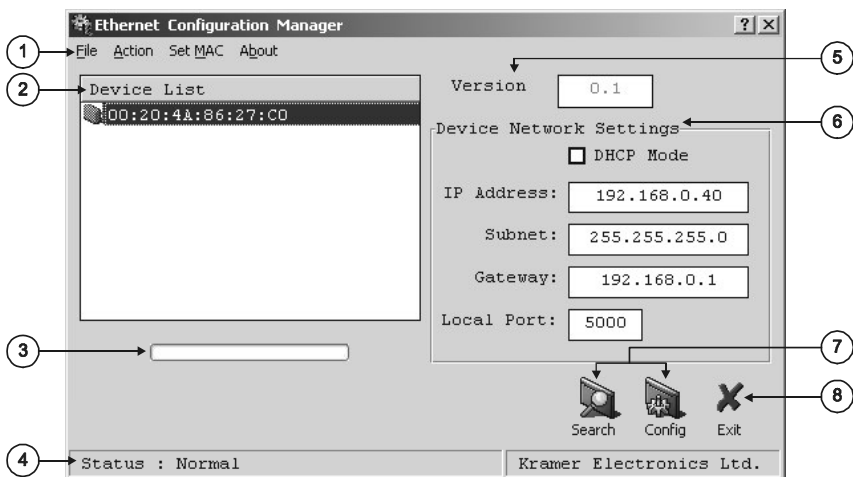

Figure 11: The Ethernet Configuration Manager Window
3. Click the appropriate shortcut in the Start menu's Programs folder. The Configuration Manager window (see Figure 11) opens.